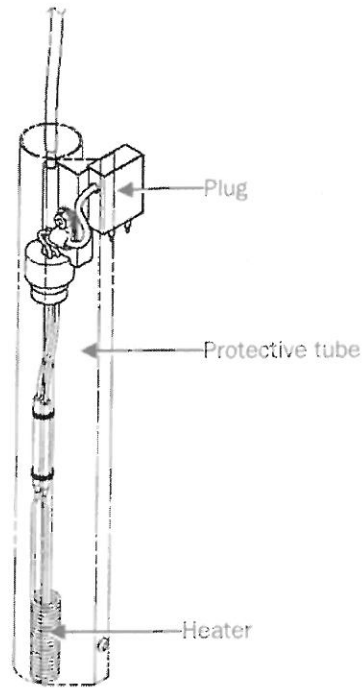

Fig. 5.68 Coolant evaporator
- a. Lower the protective tube until it stops (Fig. 5.68).